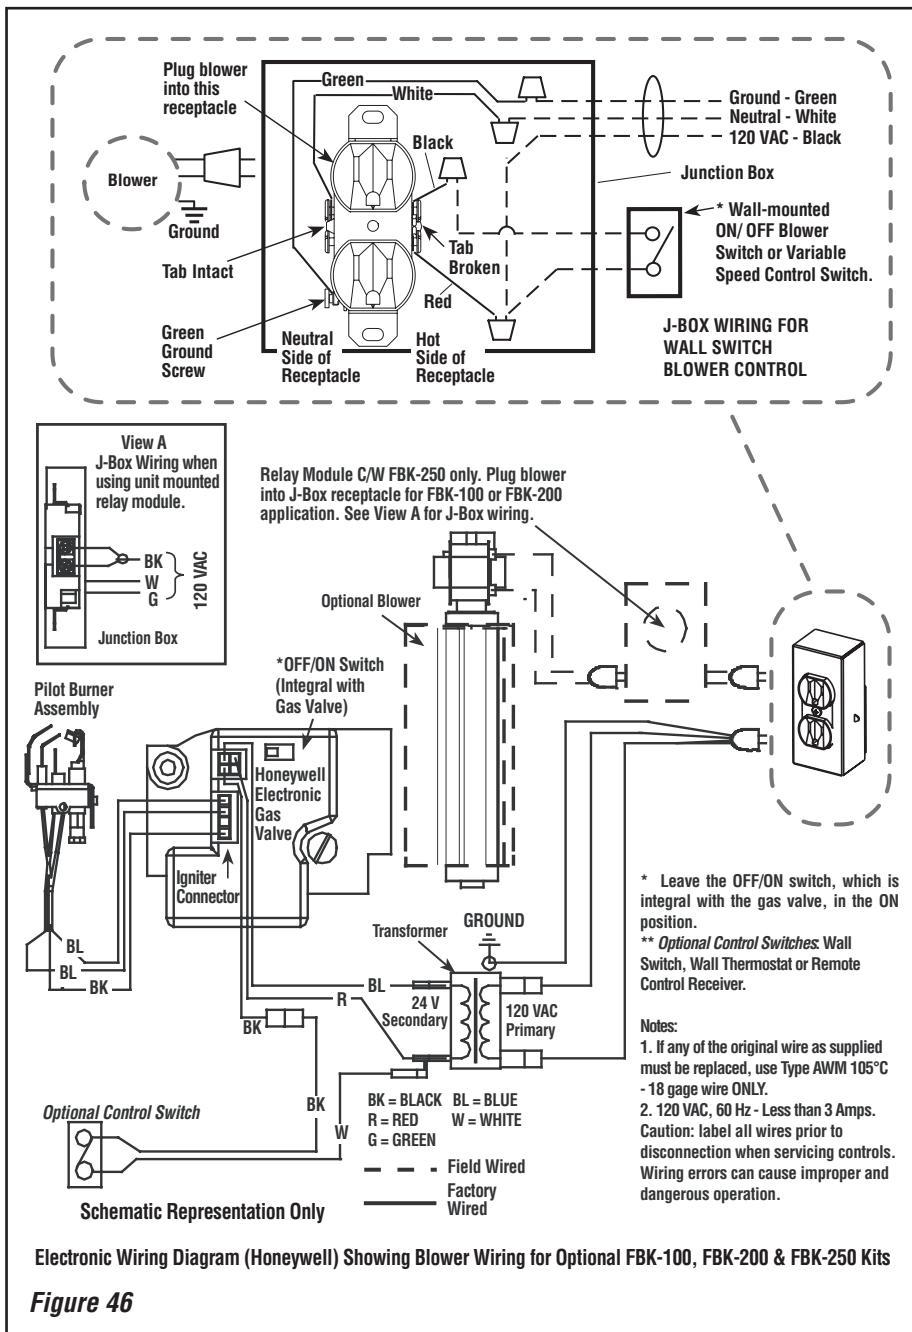

Figure 46
1. Install the junction box and receptacle outlet to the right of the valve in the front (for optional blower kit). See junction box and receptacle outlet as explained in steps 1-5 for (A) Electronic Wiring (on this page).
A. Electronic Wiring (*See Figure 46*)
5. Install the snap bushing (on brown wall switch wire) into the selected cabinet knockout opening in side cabinets (see *Figures 12, 13 and 45*). The snap bushing provides protection for the wires (see note below) passing through side cabinet going to an optional burner control switch. Wire in the burner control switch to the low voltage circuit as shown in *Figure 46*.
(See **Figure 46** for wiring) -